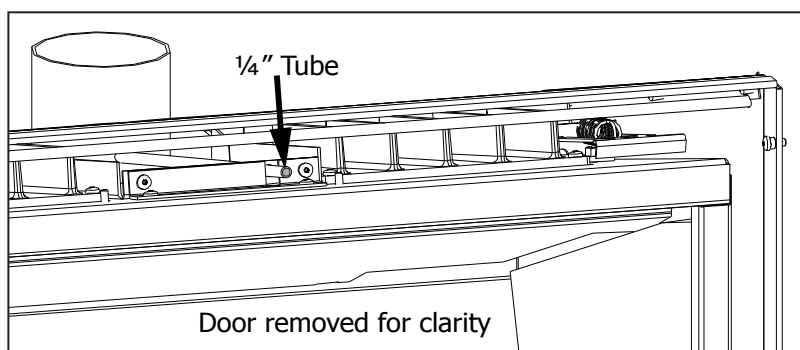

Figure 30: Draft check.
The draft hood must be in the same pressure zone as the air inlet. Inspect for draft from the front of the unit at the 1/4" tube (shown in Figure 30). Note that when the door is installed the tube is not visible when looking straight at the unit. Check for a draft using smoke; a vacuum or suction into the tube will indicate proper drafting. If air is blowing out of the tube the problem must be corrected before the unit can be started.
- b) Using a T-20 screwdriver remove the screw that is in the draft tube pointed at in Figure 30.